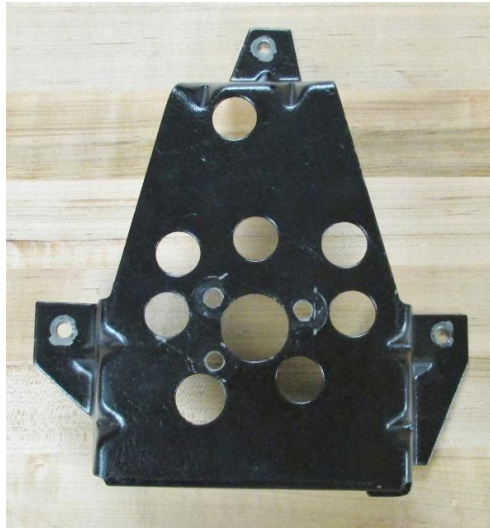

Figure 5 - Drill Motor Mount Holes
- Drill three small holes that were transferred from the motor adapter template finishing with a $17/64$ " drill bit through the mounting bracket (Figure 5 on the next page).